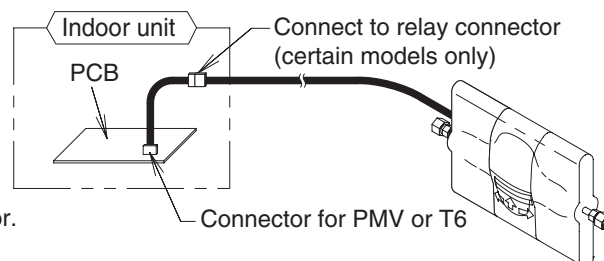

Fig. 2-320
- (4) Open the electrical component box. From the control PCB, disconnect the connector to the indoor unit internal electronic expansion valve. (This step is unnecessary if the model does not have an electronic expansion valve.)
- (5) Connect the external electronic expansion valve. (Fig. 2-320)